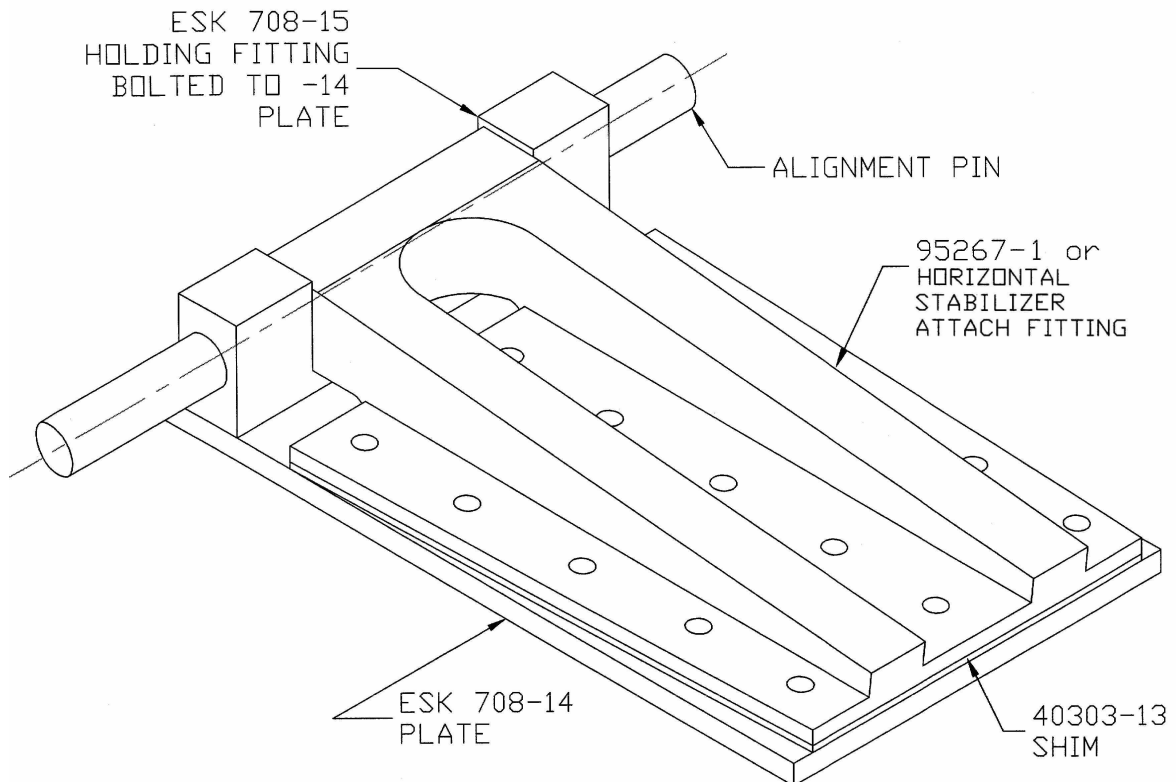

Figure 45-4: Use of Hole Transfer Fixture ESK 708-14/15 for Stabilizer Attach Fitting
5. Install old horizontal stabilizer attach fitting, removed from the vertical fin, on the -14/15 holding fixture using a 6" 5/16" (7/16" if SB-AG-45 has been complied with) pin or drill shank for alignment (see Fig. 45-4). Using a suitable "C" clamp, clamp the fitting to the plate. If the old fitting is a steel weldment, drill #30 through the 15 holes (3 rows of 5 ea.) nearest to the tube at the top of the steel fitting, using the old steel fitting as a drill jig. Do not drill the large holes in the steel attach fitting. Remove the old steel fitting and discard it. If the old fitting is aluminum, a .10" shim must be between the fitting and the -14 plate before clamping. If the old shim is used for this, ensure the holes are either aligned with the fitting or totally out of line, so as not to cause the drill to wander. Drill all of the aluminum fitting's holes #30 into the ESK 708-14 plate. Remove the old aluminum fitting and shim and discard them. Deburr the ESK708-14 plate and remove the ESK 708-18 bushings from the -15 holding fitting (if used).
6. Install the new P/N 95267-5 horizontal stabilizer attach fitting onto the -14/15 holding fixture just drilled using a 7/16" alignment pin or 6" 7/16" drill shank (see Fig. 45-4). The new 40303-13 shim installs between the fitting and the plate. Using "C" clamps, clamp the new aluminum horizontal stabilizer attach fitting and shim to the -14 plate.